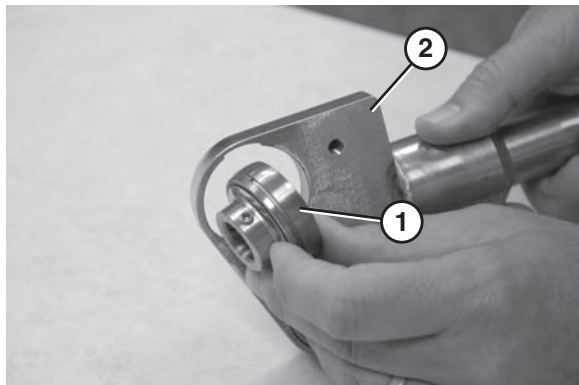

Figure 93
2. Remove the bearing (**Figure 93, item 1**) from the nose bar shaft assembly (**Figure 93, item 2**).